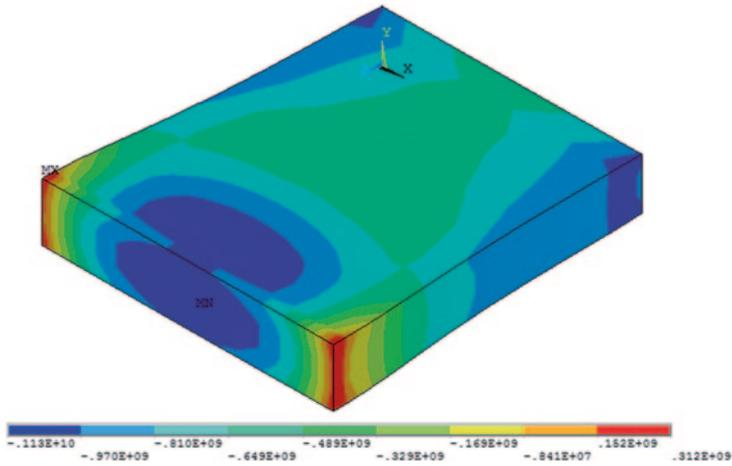

Fig. 9.62 Contour plot of the stresses in the z -direction due to thermal loading at load step 1, substep 5
- The contour plot of normal stresses in the z -direction appears, as shown in Fig. 9.62.